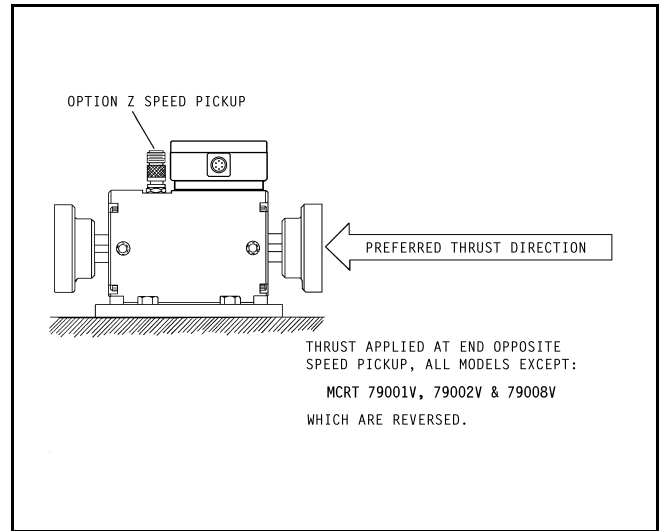

Figure 4. Preferred Thrust Path
Orienting a **foot mounted** torquemeter per Figure 4 will provide increased uni-directional thrust capacity. Because dynamic thrust loading is usually bi-directional, it's safest to limit bearing axial (thrust) loads per ¶C.3. **Orientation does not affect the thrust capacity of torquemeters installed as floating shafts.**
When axial bearing loads are *uni-directional*, the orientation illustrated in Figure 4 increases the uni-directional thrust rating by a factor of four (4). Remember, the *increased uni-directional rating applies only to optimum orientation of foot mounted torquemeters.*